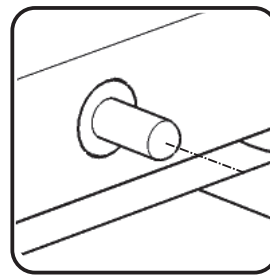

Figure 7
Pull out both ends of table, then place Leaf (C) in unit, aligning metal pins with holes. (See Figure 7)